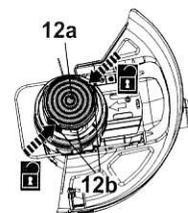

Fig. 22
2. Hold the trimmer head (12) steady with one hand. Press the release latches (12b) on both sides, then lift the cover (12a) and remove it (Fig. 22).